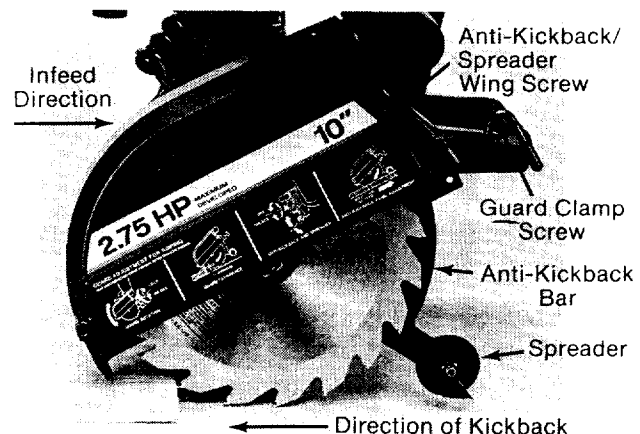

Fig. 122 Blade Guard Position for Ripping
6. Loosen the guard clamp screw and rotate the guard until the guard nose just clears the workpiece. Fig. 122.